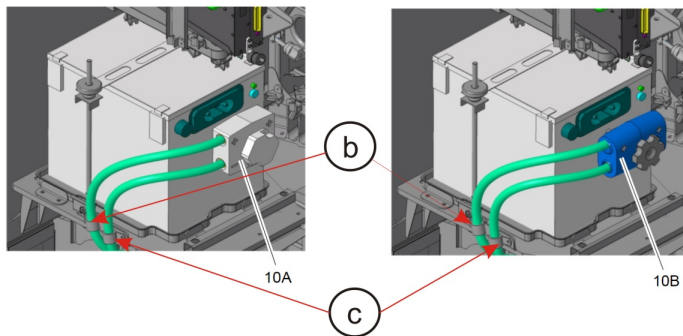

Figure 2: LH BRACKET BATTERY ASSEMBLY 2/2
- (10) Remove the clamp attaching the feeders under the battery bracket assembly (d-fig. 2).
- (1) Install the clamp attaching the feeders under the battery bracket assembly (d-fig. 2).
- (5) Install the two clamps securing the negative and positive feeders to the bracket (b-c-fig. 2).